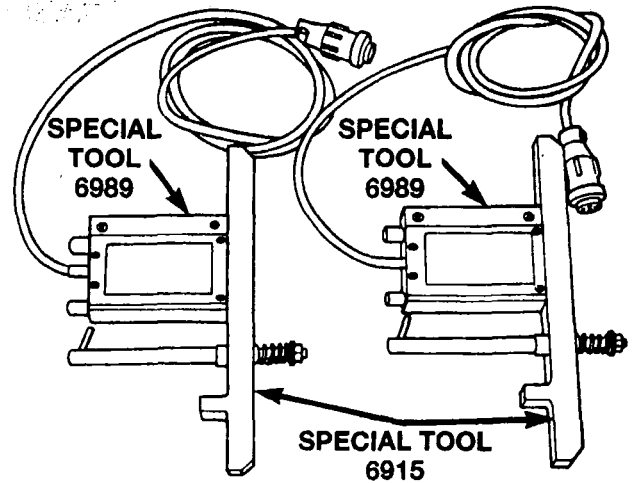

Figure 59
- Transfer the inclinometers to the front Caster Angle Fixtures (Special Tool #6915) (Figure 59).